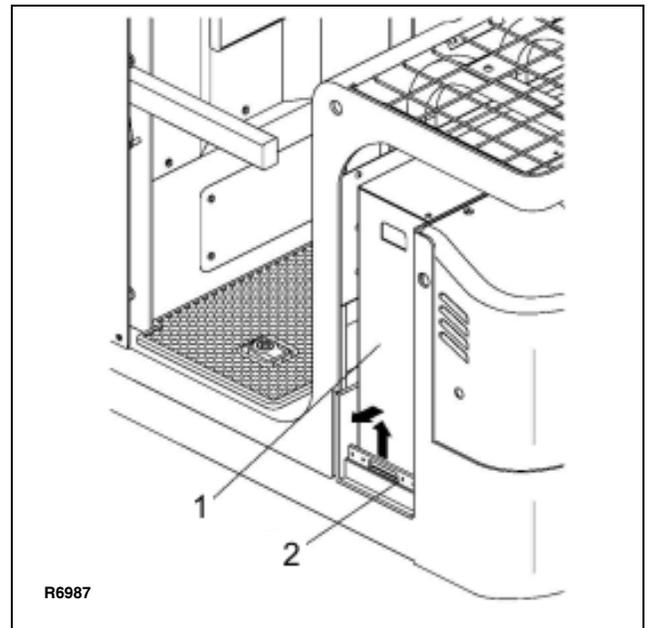

Figure 2-2 Battery Replacement
4. Remove baffle (2, Figure 2-2).